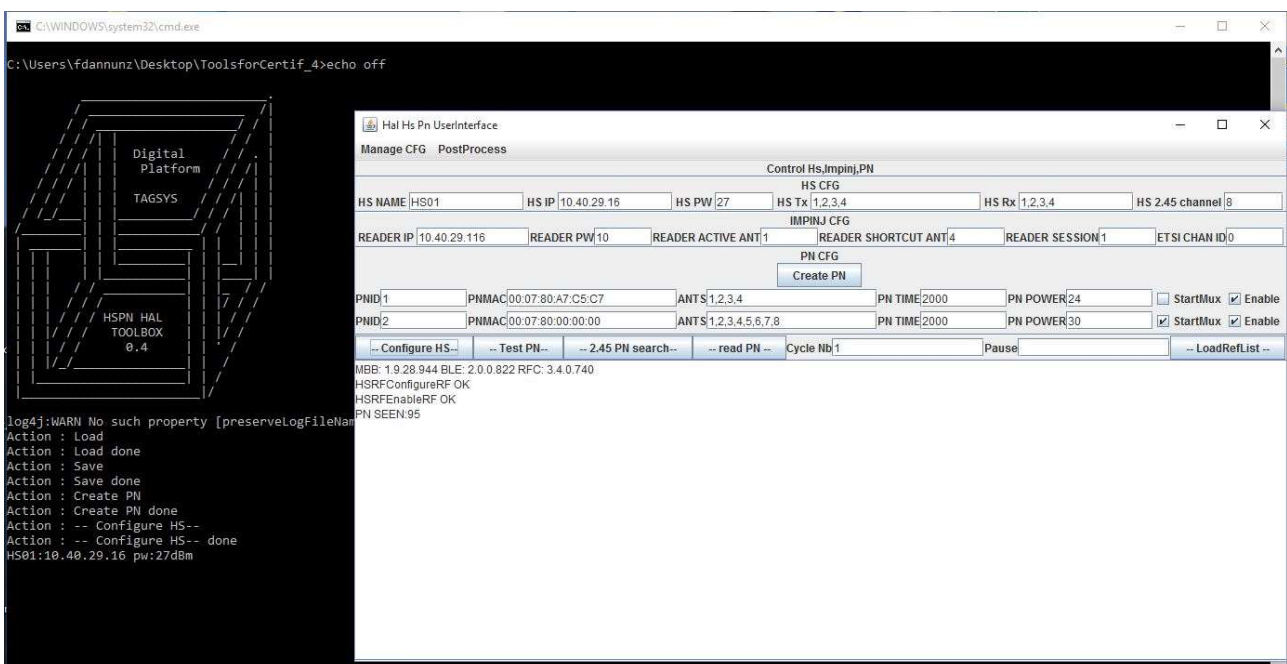

Figure 16 : Main Windows after entering Hot Spot parameters
**Figure 16** shows the screen just after HS Configuration completion.
- ANTS** enter here the list of the RF output channel numbers connected to an antenna. For ease of installation, N antennas are connected starting from 1 at the top of the PN. In **Figure 16**, only the first 4 antennas are connected to the PN so only the first 4 channels should be connected.